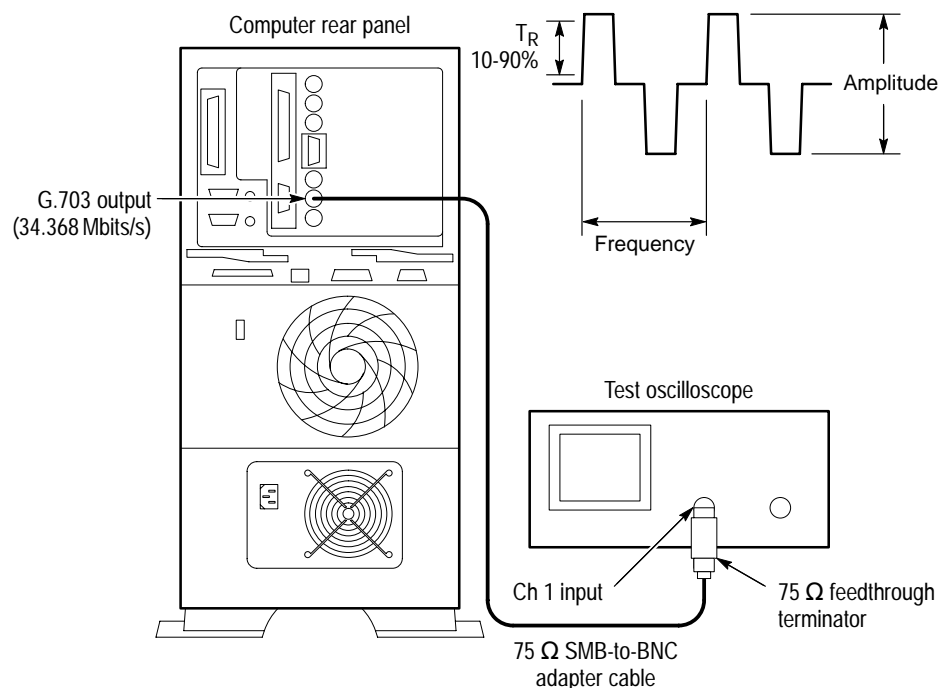

Figure 10: Setup for measuring the G.703 34.368 Mbit/s output
7. Verify a waveform frequency of approximately 4.224 MHz, an amplitude of approximately 5 volts, and a rise time of approximately 4 ns. See Figure 10 for the location of the measurement points in the waveform.
8. Move the output cable to the G.703 34.368 M output as shown in Figure 10.
11. Verify a waveform frequency of approximately 17.2 MHz, a peak-to-peak amplitude of approximately 2.3 volts, and a rise time of approximately 4 ns. See Figure 10.